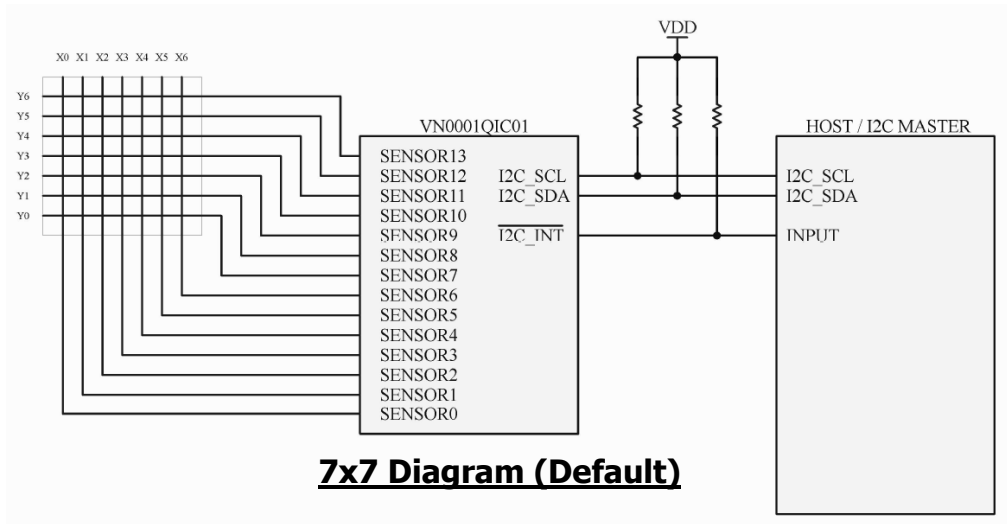
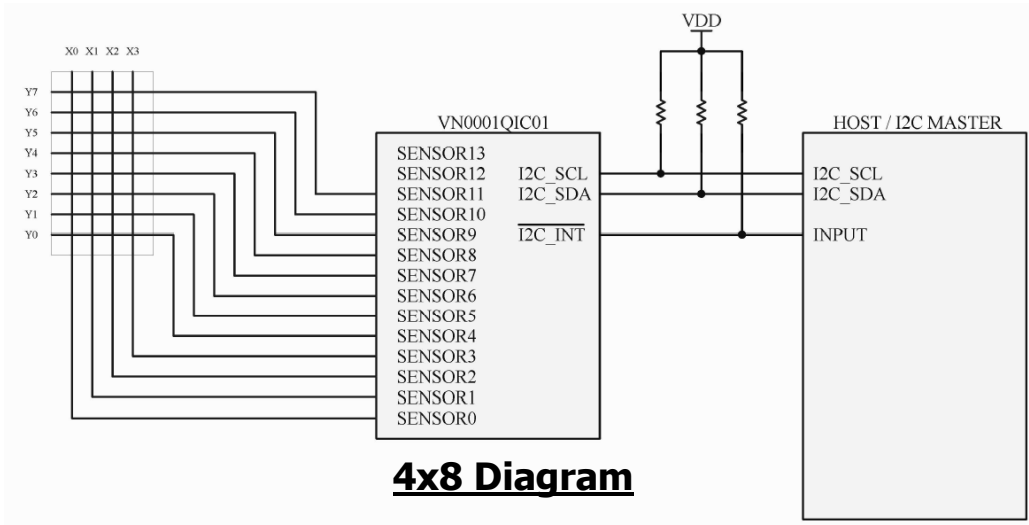

Figure 1
Figure 2
Figure 1 shows a block diagram highlighting the main connections for the VN0001QIC01 IC in the default 7x7 matrix. Figure 2 highlights the connections for a 4x8 matrix. The X/Y electrodes are connected to the IC sequentially from SENSOR0—SENSOR13 with no unused inputs in between the electrodes. Columns (X) must be connected starting with Sensor0 and Rows (Y) should follow the last Column with Columns and Rows grouped together and not co-mingled. When used with X/Y electrodes, supported Number of Column values are 3 - 10 (default = 7) and supported Number of Row values are 3 - 10 (default = 7). Communication to the IC is accomplished through a standard master slave I²C interface with the addition of standard external pullup resistors to the bus. Use of the I2C_INT line allows for interrupt enabled communications upon touch state changes. The I2C_INT line is active low and requires an external pullup resistor to VDD.